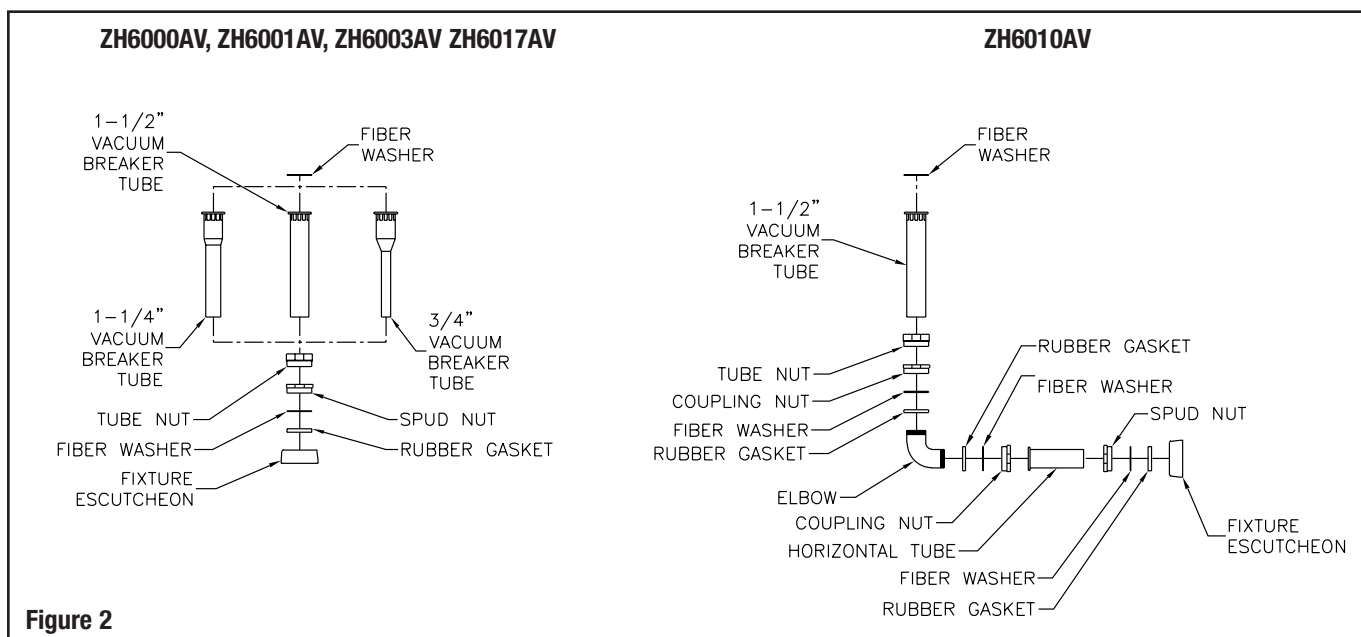

Figure 2
### Install Vacuum Breaker Flush Connection (Figure 2)
**Back Spud** – Assemble pipe, elbow, coupling nuts, fiber washers, rubber gaskets, and fixture escutcheon as illustrated in Figure 2.